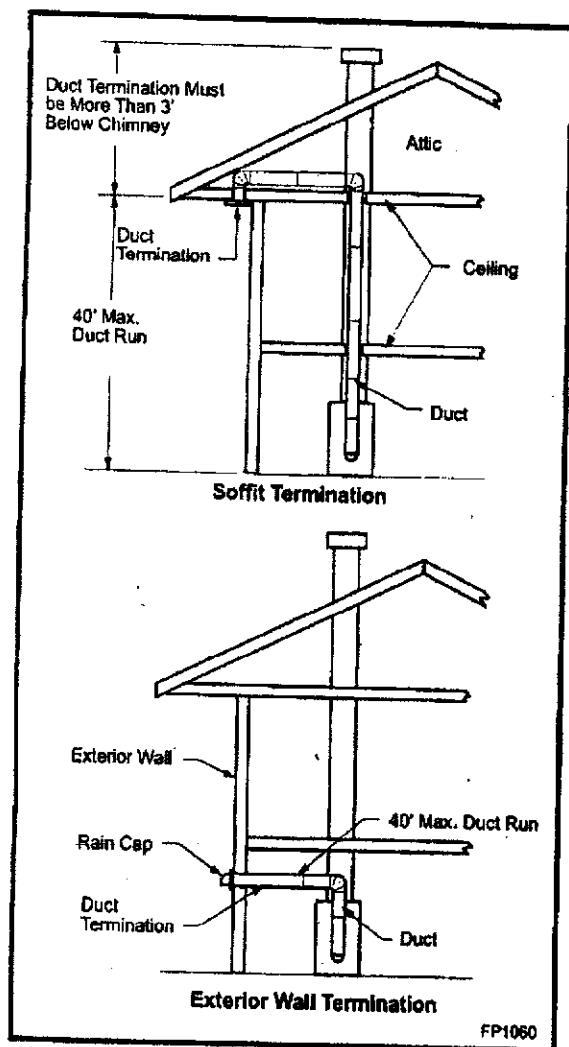

Fig. 2 Typical installations.
Duct run must be limited to a maximum distance of 40 feet from the fireplace pipe collar to duct termination. This will provide the least restriction to air flow. No more than four (4) 90° elbows can be used. Duct run may be horizontal, vertical, inclined or any combination of these. Vertical duct runs must be at least three (3) feet below the fireplace chimney flue exit. (Fig. 2) You are now ready to install the AK-MST Outside Air Kit.